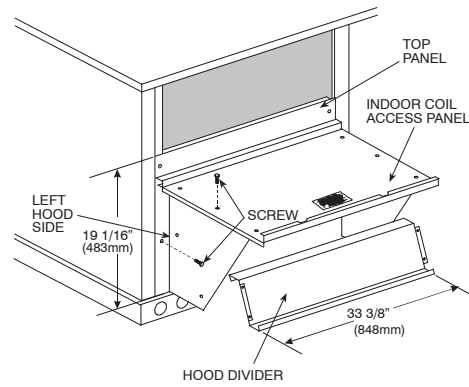

Fig. 13 - Economizer Hood Construction
2. Swing out indoor coil access panel and insert the hood sides under the panel (hood top). Use the screws provided to attach the hood sides to the hood top. Use screws provided to attach the hood sides to the unit. See Fig. 13.
4. Insert the hood divider between the hood sides. See Fig. 13 and 14. Secure hood divider with 2 screws on each hood side. The hood divider is also used as the bottom filter rack for the aluminum filter.